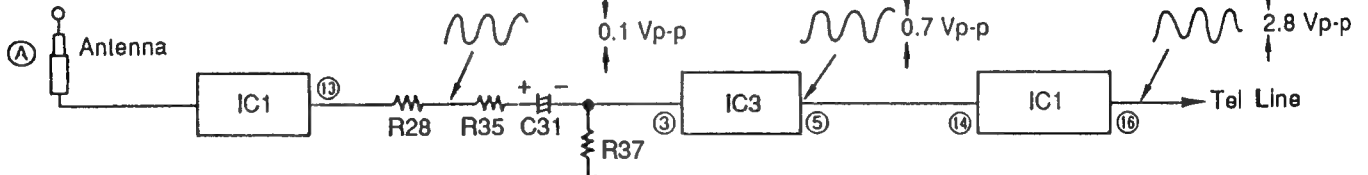

Fig. 61
- Ⓐ The sound of telephone line does not hear. (Check point: Refer to Fig. 61.)